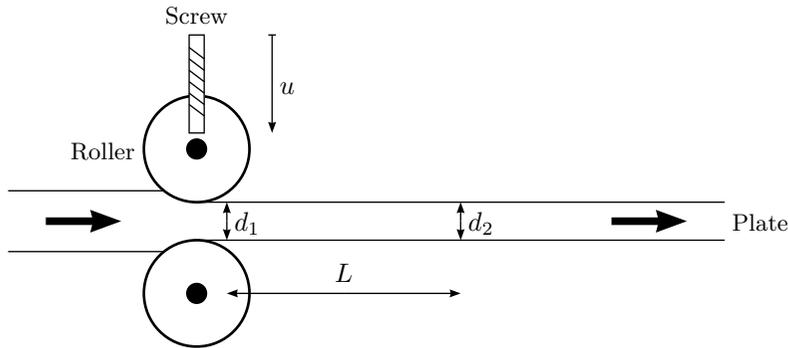

Figure 2.3a
2.3 Consider the simple model of the roller depicted in Figure 2.3a. To obtain a simple model we describe the relationship between the position of the screw and the thickness of the sheet d_1 directly after the rollers as a first order transfer function